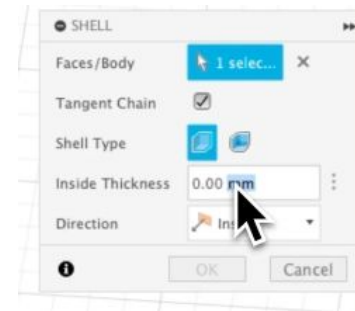

Figure 1.7
- **Shell:** The '**Shell**' tool hollows out a solid body, leaving a uniform wall thickness and essentially creating a pocket. You'll select '**Shell**' underneath '**Modify**' and a new window will appear where you can define the thickness of the walls. Once applied, the tool removes the selected face or faces and offsets the remaining geometry, making it an efficient way to create lightweight, hollowed-out parts (see Figure 1.7).